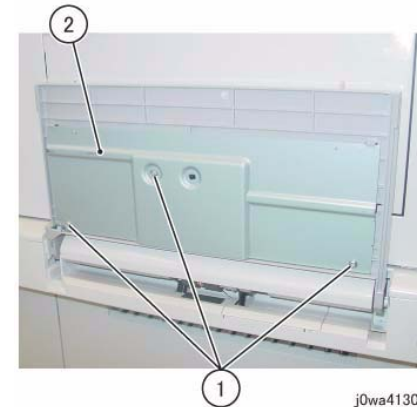

Figure 2 Remove the Plate
4. Remove the Plate. (Figure 2)